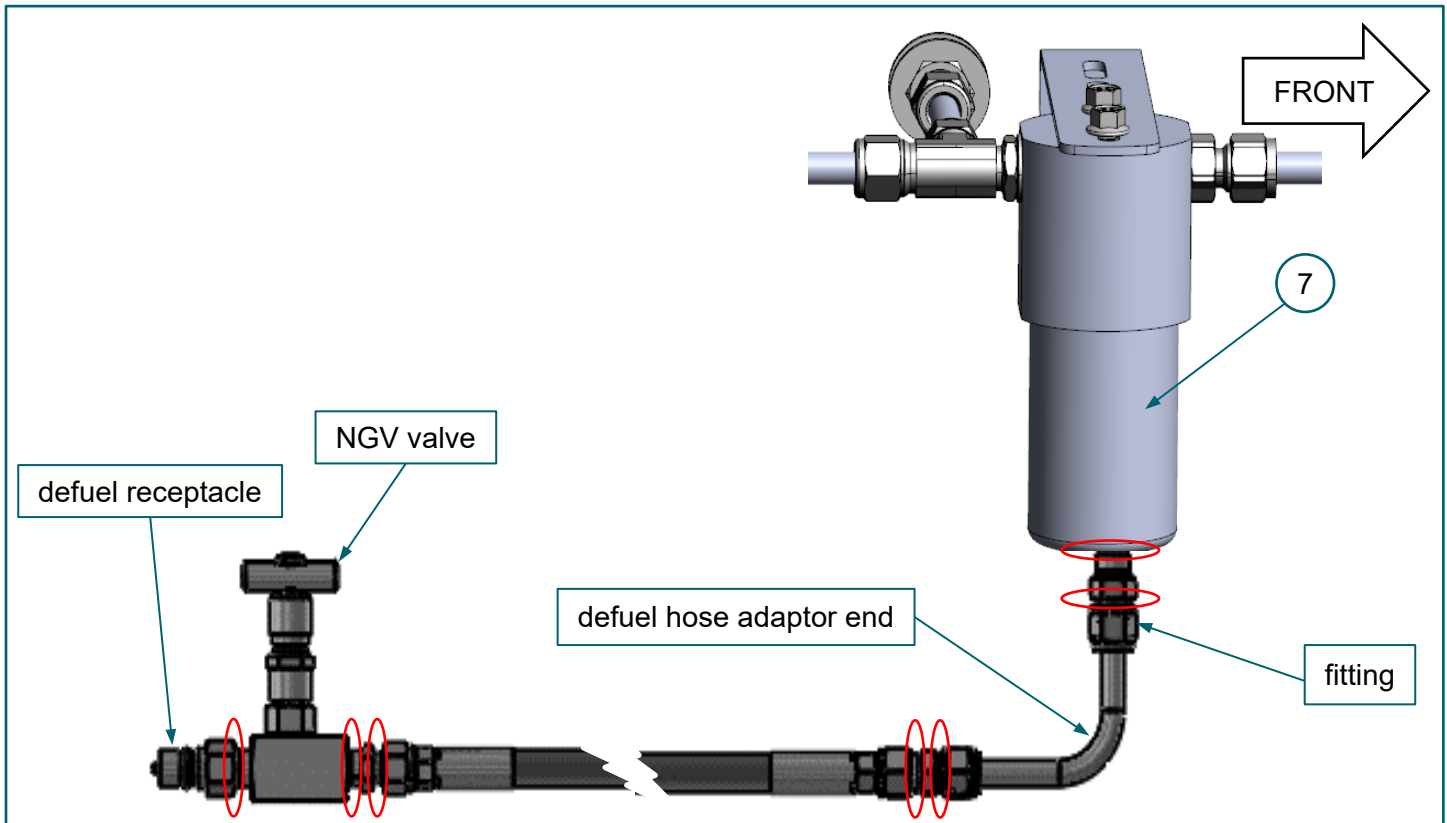

FIGURE 3-12. (7) HP fuel filter, fitting, defuel receptacle, NGV valve, defuel hose adaptor connections (*circled*) to be leak checked
11. Open (6) PS cylinder manual shutoff valve. NOTE: Cylinder shield not shown. **FIGURE 3-12**
12. Spray Swagelok Snoop® on all defuel hose adaptor fitting connections **FIGURE 3-12**